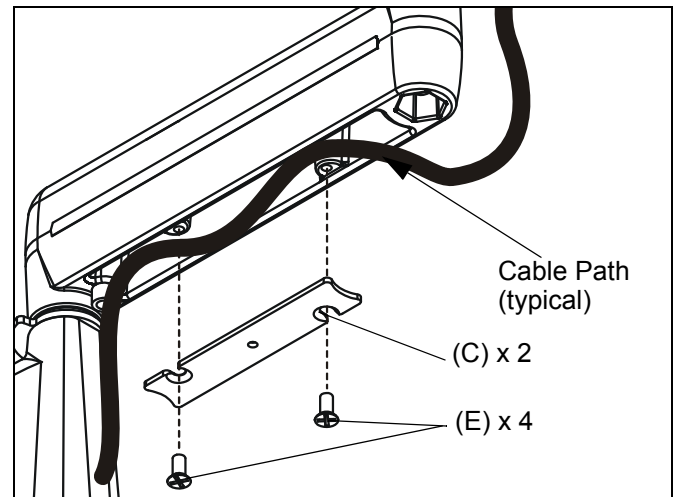

Figure 9:
2. Carefully insert cables in cavity located in lower portion of mount arm (See Figure 9).
3. Using Phillips screwdriver, install cover (10) with two screws (20). (See Figure 9)